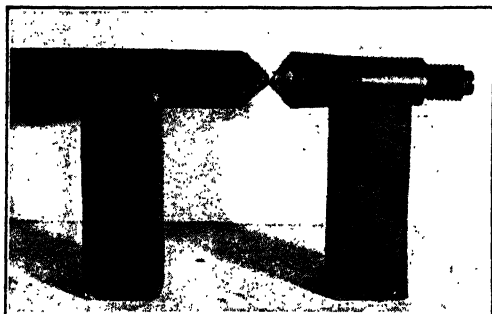

Fig. 72. "V" Blocks for Welding Shafts
**V-Blocks.** When welding shafts, it is advisable to line them up in position on V-blocks, so that they may be turned over and still kept in alignment, Fig. 72.